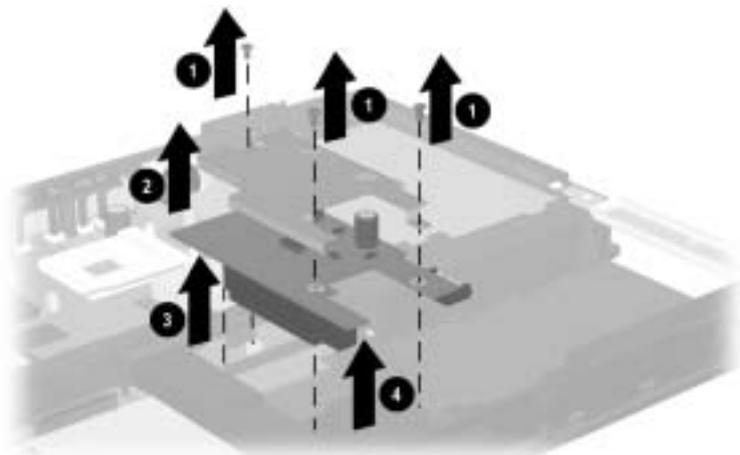

Figure 5-37. Removing the Charger Board
3. Remove the three TM2.5 × 5.0 screws ❶ that secure the charger board to the base enclosure (Figure 5-37).
4. Lift the front edge of the charger board shield ❷ until it clears the base enclosure, then slide the shield forward to remove it.
5. Lift up on the back edge of the charger board ③ to disconnect it from the system board.
6. Remove the charger board ④ from the base enclosure.